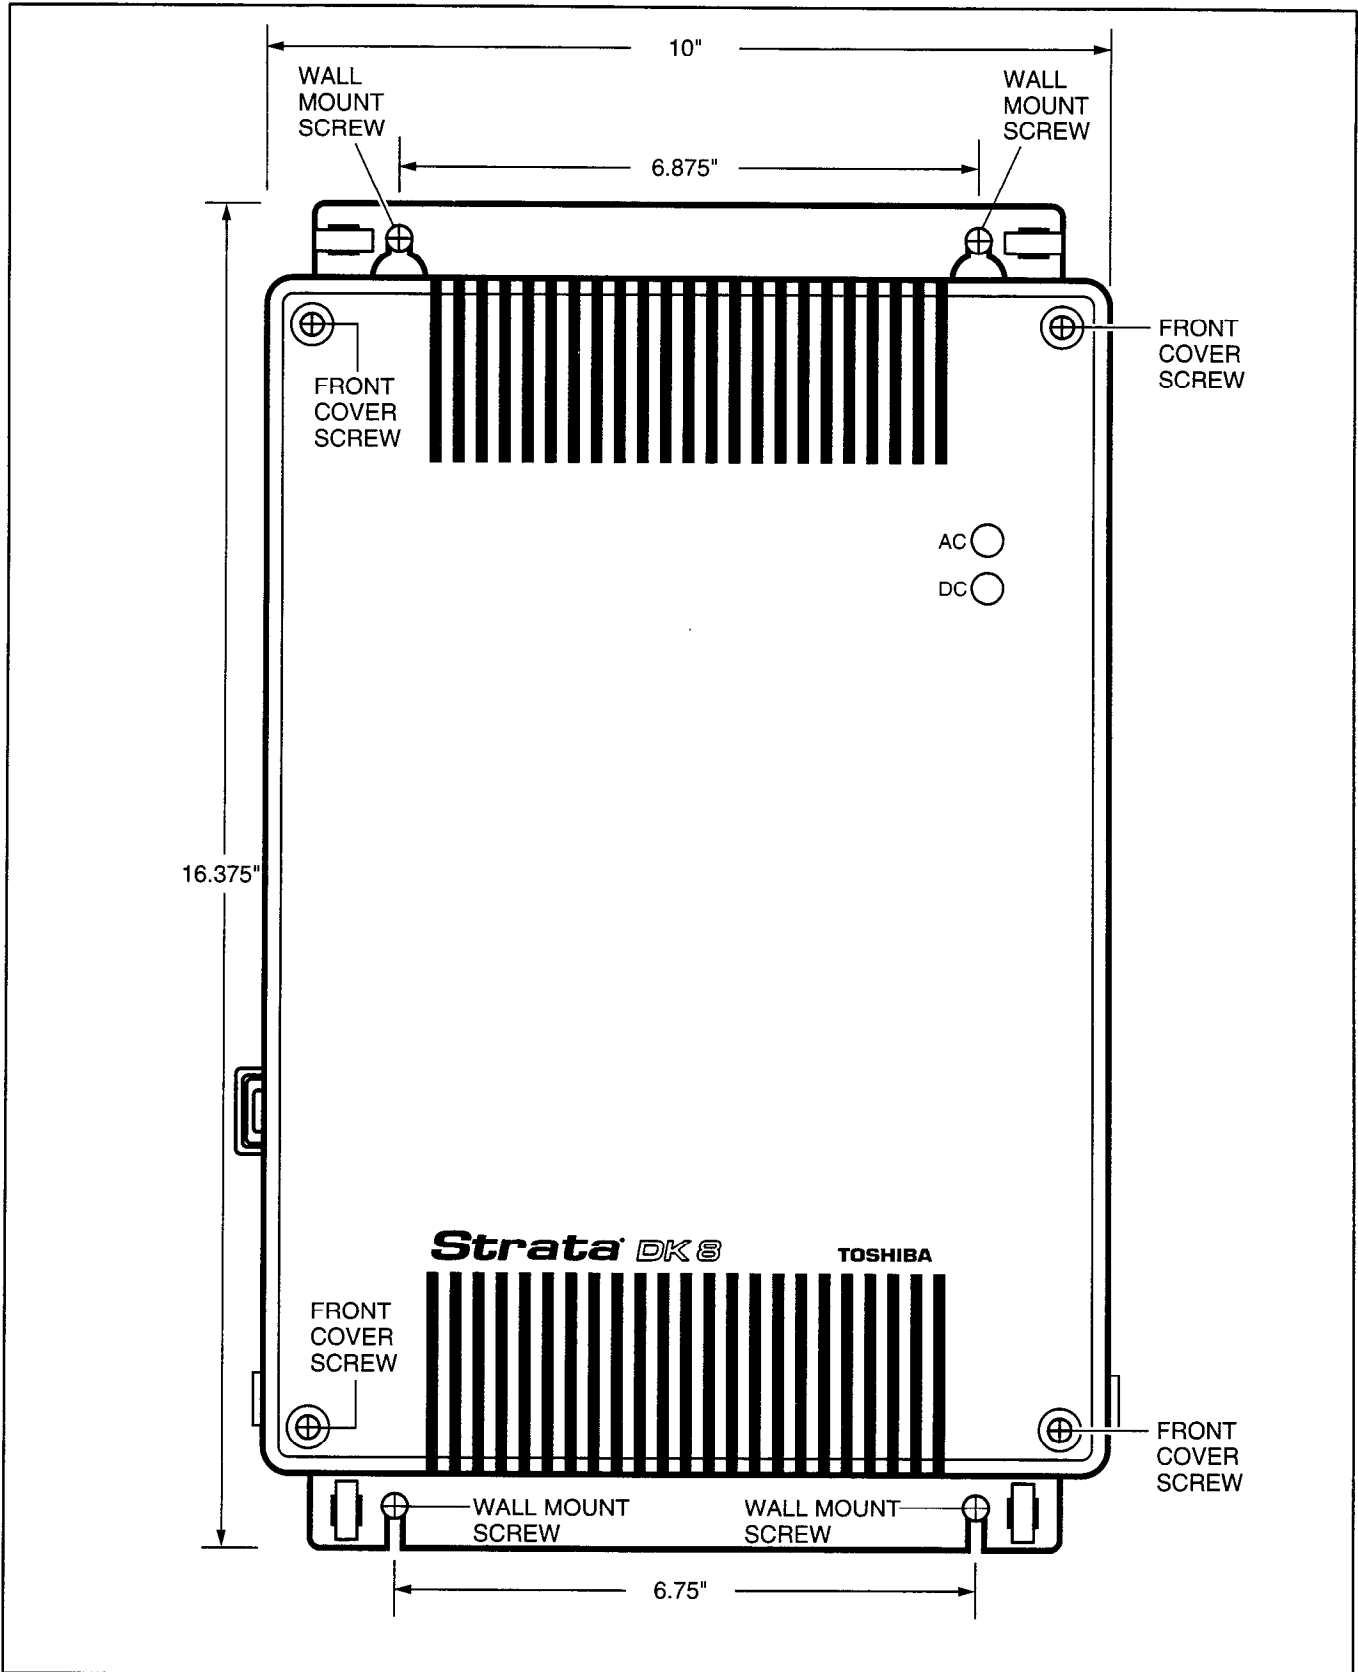

FIGURE 4-2
2.01 The Key Service Unit (KSU) is designed to be mounted on a wall or other vertical surface. It is recommended to use the method shown in Figure 4-1 (see Note). See Figure 4-2 for DK8 KSU physical dimensions.
- 1) Loosen the screws on the front cover of the Key Service Unit, and remove the cover (Figure 4-2).